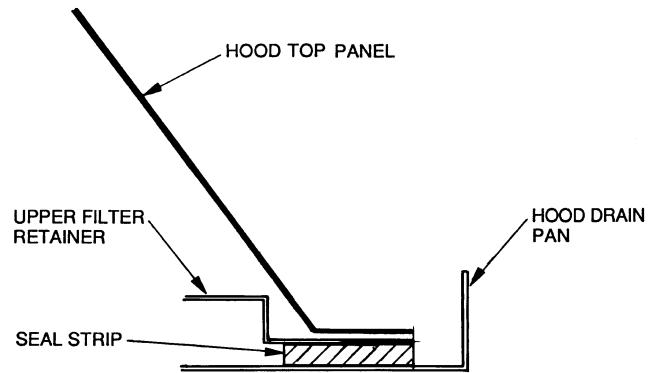

Fig. 20 — Seal Strip Location
1. Attach seal strip to upper filter retainer. See Fig. 20.